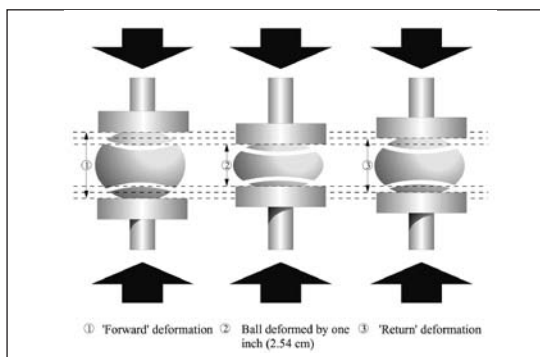

Figure 6. Deformation – Test Method ITF TB 03/01.
- iv. **Deformation.** Test once on each axis and record the results. Report the mean value, and the maximum difference between the three readings, for each ball (see also Section 1.3). The test measures the deformation of a ball under a load of 80.07 N (18.00 lbf) after a small initial load, of 15.57 N (3.50 lbf), has been applied to compress the fabric cover material. See Figure 6. The ‘deformation’ is measured in two senses: